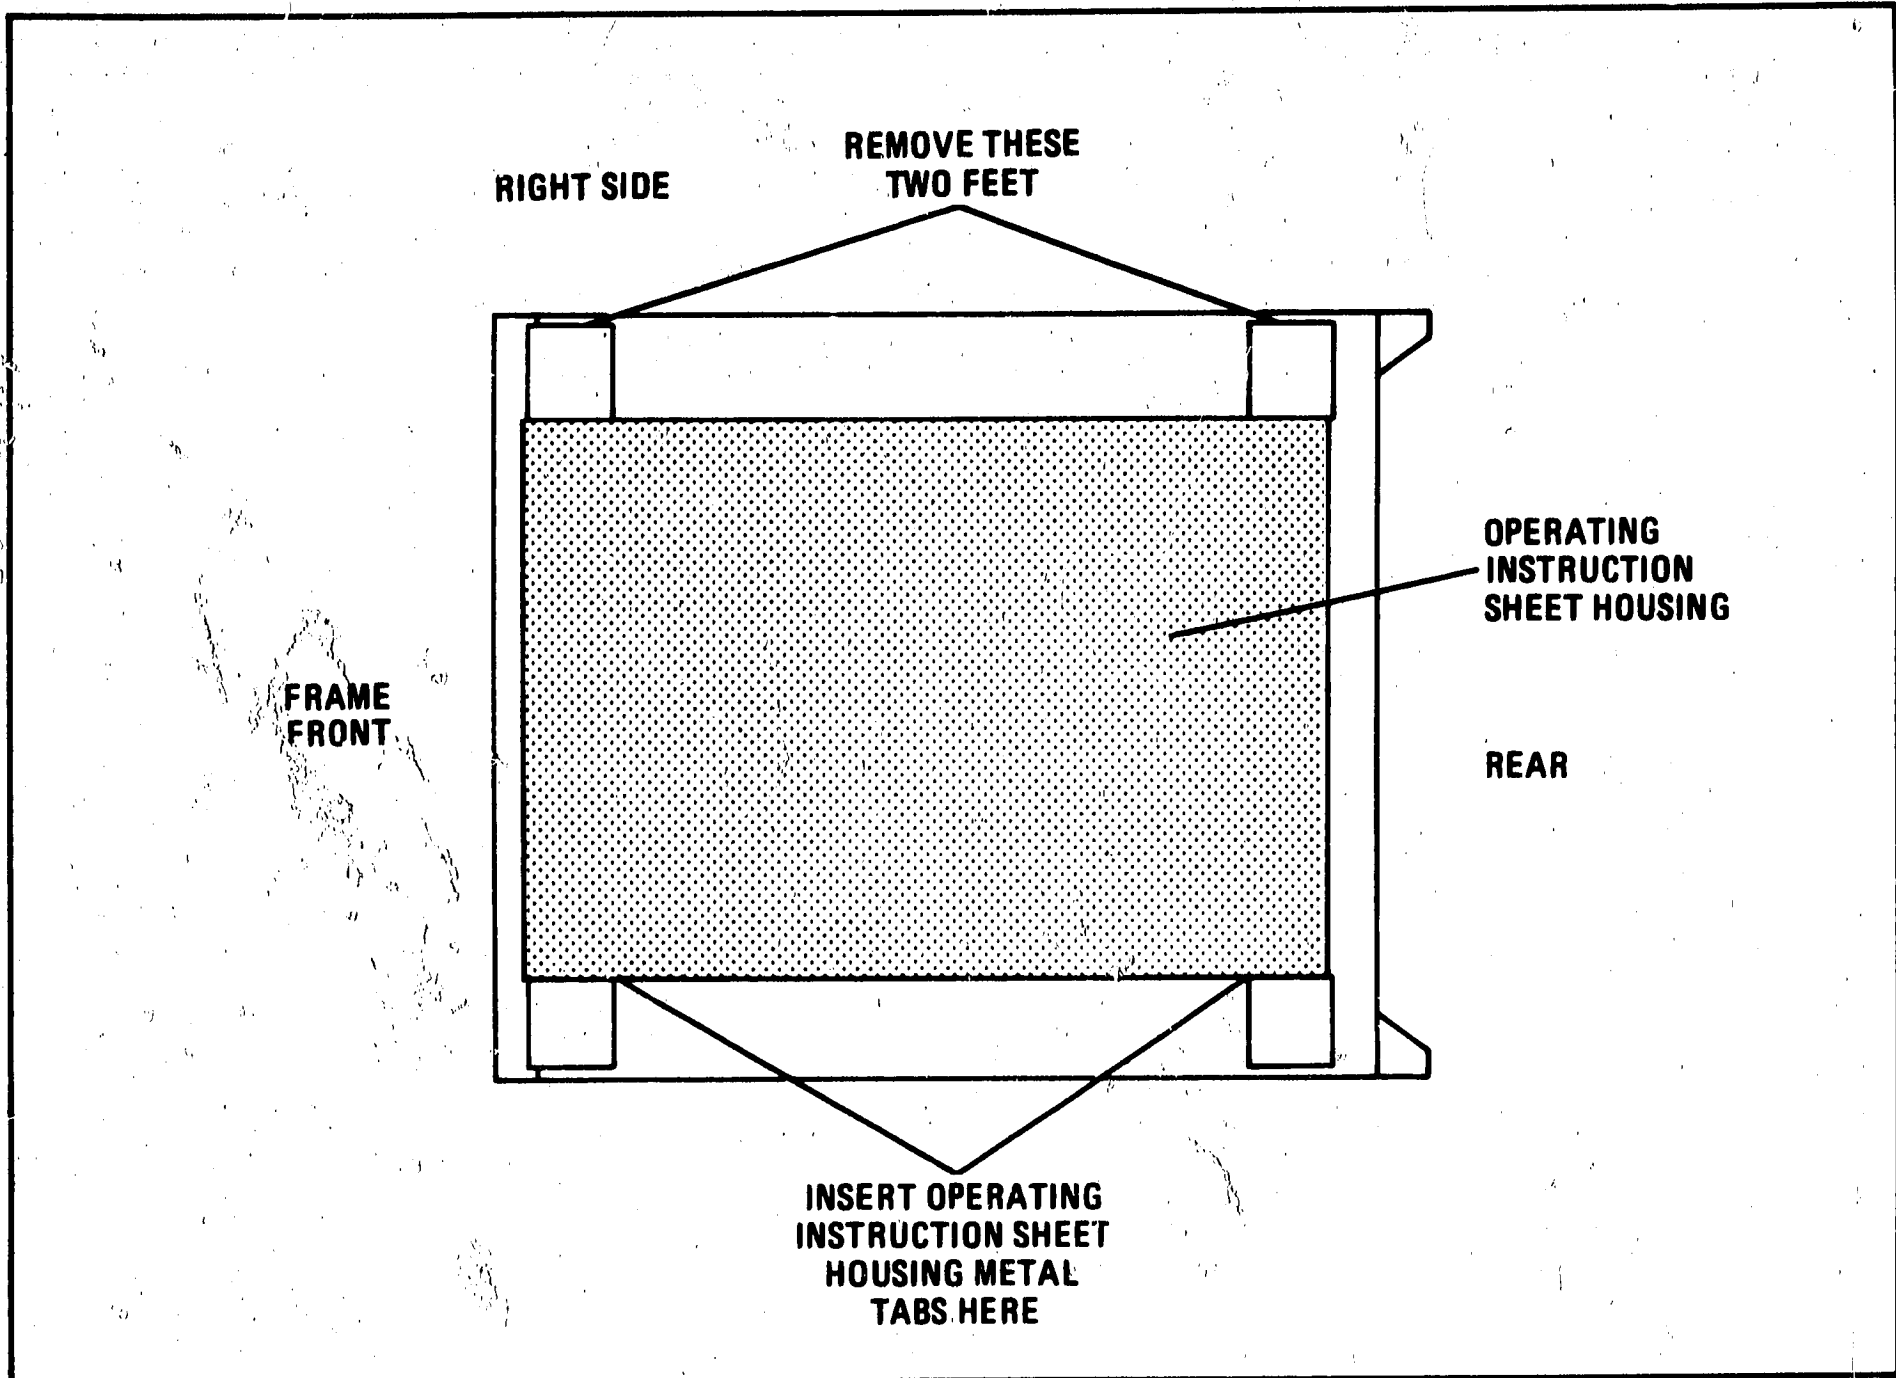

Figure 2-3. Changing 8505A Operating Instruction Sheet to Bottom of 8503B
- a. Set the 8505A on its left side (facing the front panel) and remove the two plastic feet from the right side of the instrument as shown in Figure 2-3. To remove feet, lift tabs and slide in direction of arrows.
- c. Set the 8503B on its left side and remove the two plastic feet from the right side of the instrument as shown in Figure 2-3.
- d. With the 8505A Operating Instruction Sheet (and its housing) oriented so the instruction sheet will pull out toward the front of the 8503B, insert the two bottom metal tabs on the instruction sheet housing under the two bottom feet of the 8503B (the tab near the front panel is inserted in the small slot between the front frame and the plastic foot). See Figure 2-3.